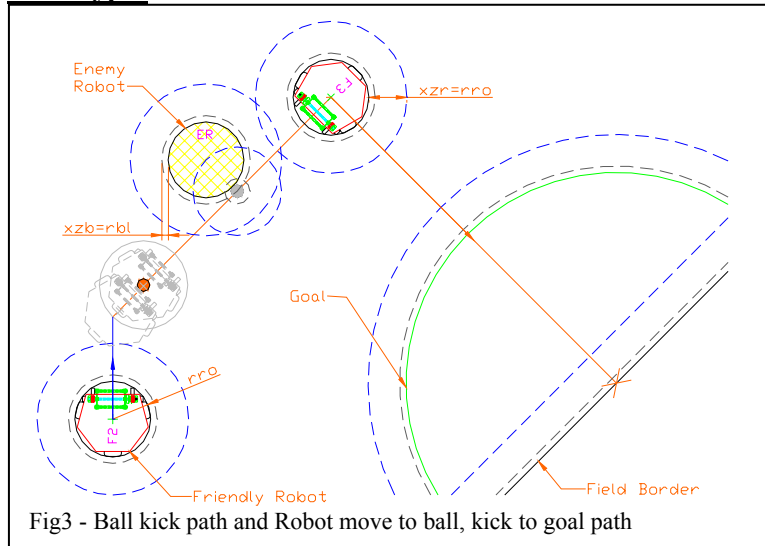
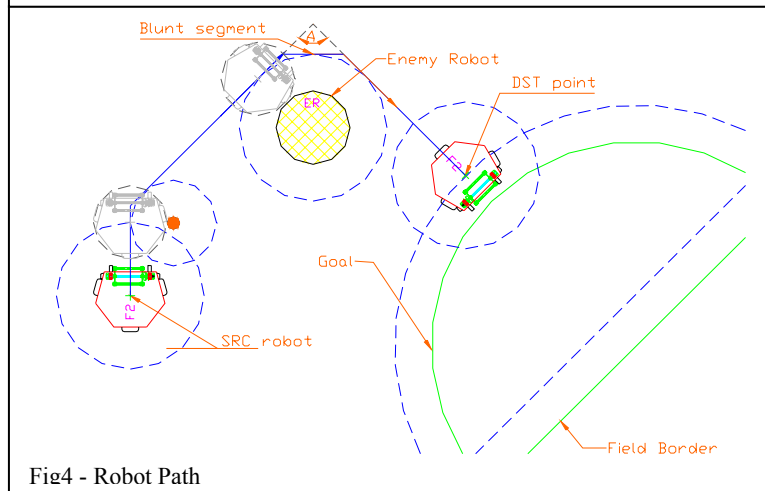

Fig3 - Ball kick path and Robot move to ball, kick to goal path
Fig4 - Robot Path
- **Ball kick path** to goal is shown in red(fig 3).
- **Robot path** of robot f2, shown in blue to ball(fig 3,5), to DST point(fig 4).
- **Robot move to ball, kick to goal path** - fig 3
Fig 3 shows a 'Ball kick path'. After making the source robot(kicker) transparent, an exclusion zone(xzb) equal to the **Ball radius**(rbl) is constructed around field objects, to prevent collisions with the ball, by ensuring that path segments do not intersect the exclusion zone(xzb). If collision is observed, 'rbl'(in mm) may be increased. 'rbl' is taken into the 'rbl' member.
Fig 4 shows a 'Robot path' moving the source(SRC) robot 'f3' to destination(DST) point. An exclusion zone(xzr) equal to the **Robot radius**(rro) is constructed around field objects, to prevent collisions with the SRC object, by ensuring that path segments do not intersect the exclusion zone(xzr). If collision is observed, 'rro'(in mm) may be increased. 'rro' is taken into the 'rro' member.
If the angle(A), between path segments of a **robot path** or **ball move path**, is less than this setting, the path is blunted as shown in Fig 4.The process of blunting continues recursively until the angles between the segments satisfy the constraint. Cos(Blunt Angle/2) is taken into the 'bfc' member.
b>**Ball is stationary**. The robot moves to position itself such that the ball is in the direction required (fig 3,5). If the robot has a rotatory kicker, the kicker takes time to accelerate and may require the kicker on segment(fig 3) to be longer, the excess length is entered in this box and taken into the 'otx' member.